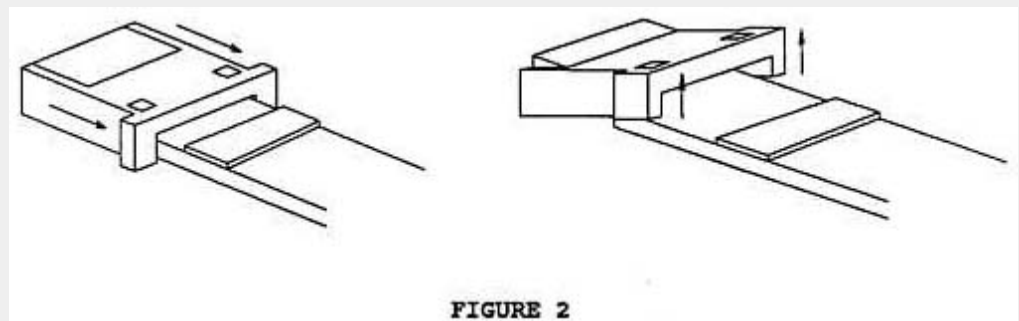

FIGURE 2
3. Lift the front panel from the body of the transceiver and disconnect the two flex cables. To open the connectors push the tabs towards the flex cables and gently lift up. Figure 2.